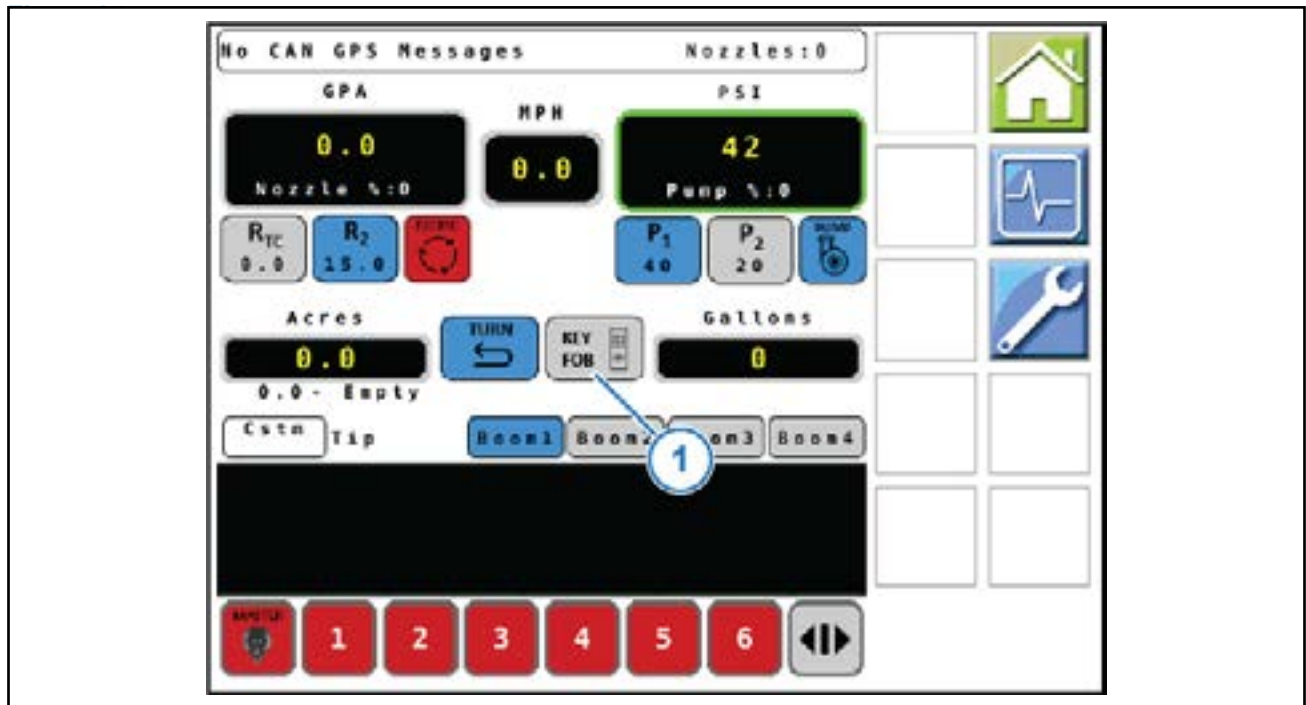

Figure 29: Run Screen
1. To initiate the key fob boom shutoff dry test, select the **KEY FOB** icon (Figure 29, Item 1).
5. On the VT screen, select the box (Figure 30, Item 3) next to Key Fob (Figure 29, Item 4) until OFF shows.